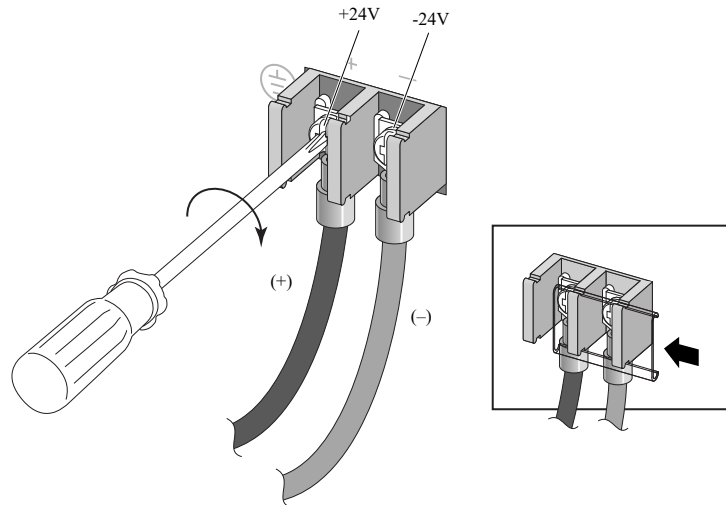

Figure 412: Connecting the DC Power Cables: Part 2
- d. Tighten both screws on the terminal block to 15.9 in-lb (1.8 N-m) as shown in Figure 412.